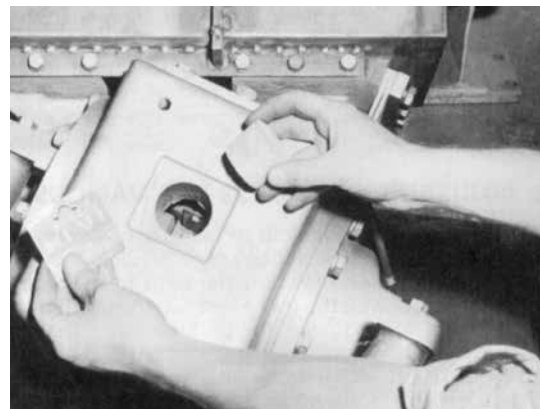

FIGURE 8
6. 20A, 30A, 40A, 45A, 50A, and 55A only (see Figure 8).